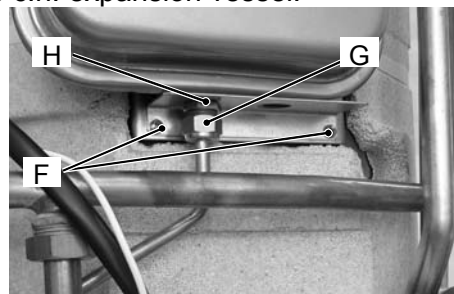

Figure 4
- 3) Loosen the screws F and unscrew the connection G (Figure 4).
- 4) Unscrew the lock-nut H (Figure 4) and remove the c.h. expansion vessel.